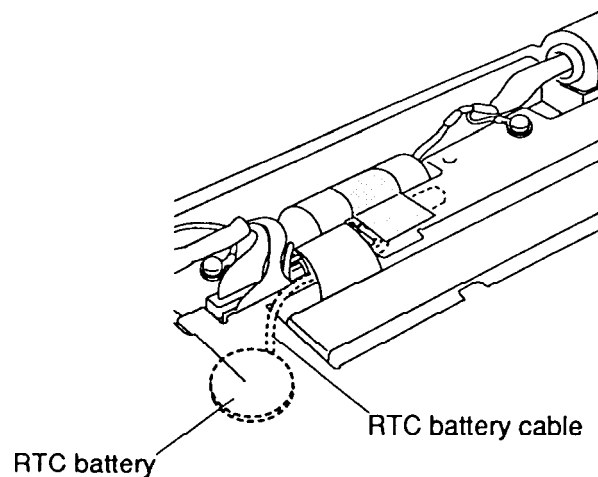

Figure 4-27 Connecting the RTC battery
2. Connect the **RTC battery cable** to its connector, then fold the cable in a loop so it lies flat against the system board to prevent it from being pinched when you replace the protective metal plate. Double-sided adhesive tape is applied to the underside of the **RTC battery**. Stick the taped side to the system board (Figure 4-27).